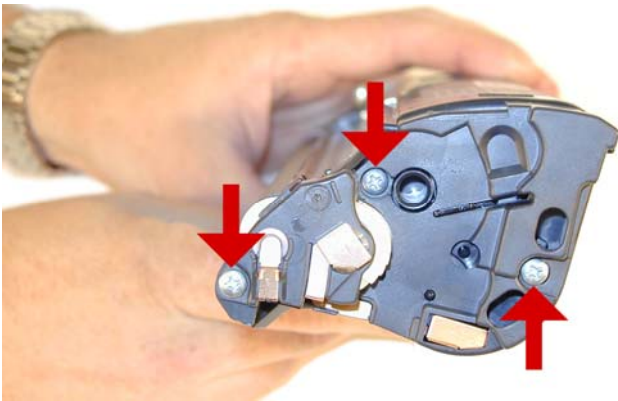

Figure 7
1) On the gear side of the cartridge, remove the three silver screws from the end cap. See **Figure 7**